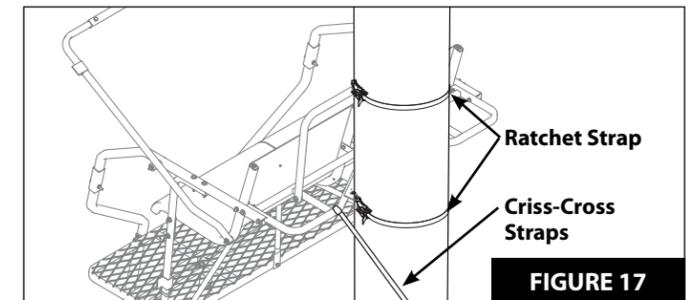

FIGURE 17
8. If necessary, re-check and adjust the 6' ratchet strap (33), 16' criss-cross straps (36) and horizontal stabilizer bar assembly to securely attach the treestand to the tree. The tree blade must be touching the tree. **SEE FIGURE 17.**